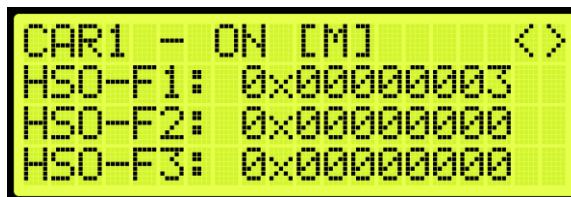

Figure 270: Front Hall Security Map Status
9. From the Front Hall Security Map Status (See Figure 270), press the right button.